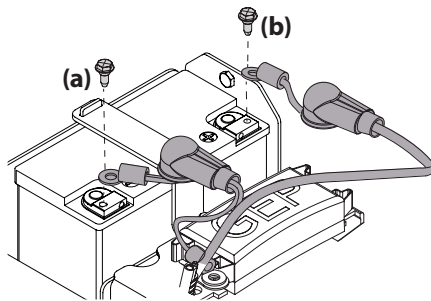

Figure 37
2. Remove the vertical mount bolt securing the black negative battery lead (a) to the negative battery post (marked NEG (-)). Move the cable away from the negative battery post. See Figure 37.
3. Remove the vertical mount bolt securing the red positive battery lead (b) to the positive battery post (marked POS (+)). Move the cable away from the positive battery post. See Figure 37.